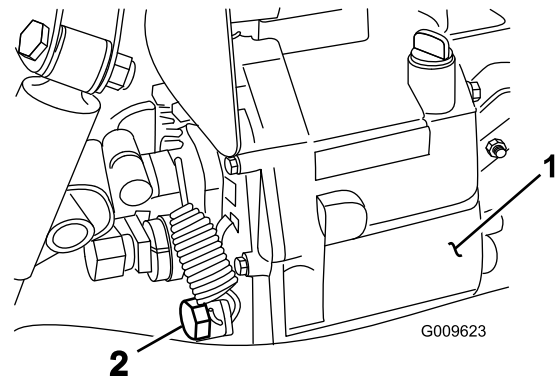

Figure 76
2. Remove the drain plug from the side of the reservoir and let the hydraulic fluid flow into a drain pan (Figure 76).